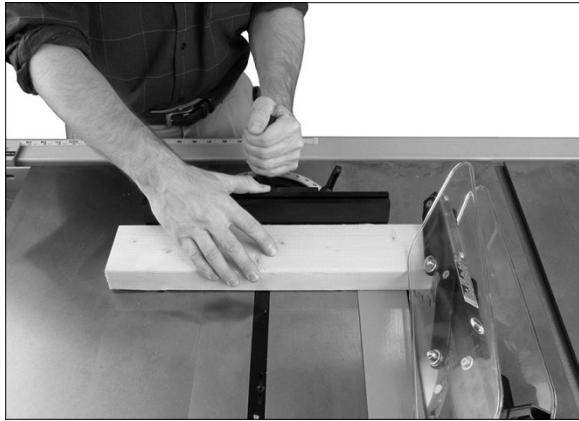

Figure 41
**Bevel cut** – A bevel cut is a special type of operation where the saw blade is tilted at an angle less than 90 degrees to the table top (Figure 41). Operations are performed in the same manner as ripping or crosscutting, except the fence or miter gauge should be used on the right-hand side of the blade to provide added safety in avoiding a binding action between blade and table top. When beveling with the miter gauge, the workpiece must be held firmly to prevent creeping.